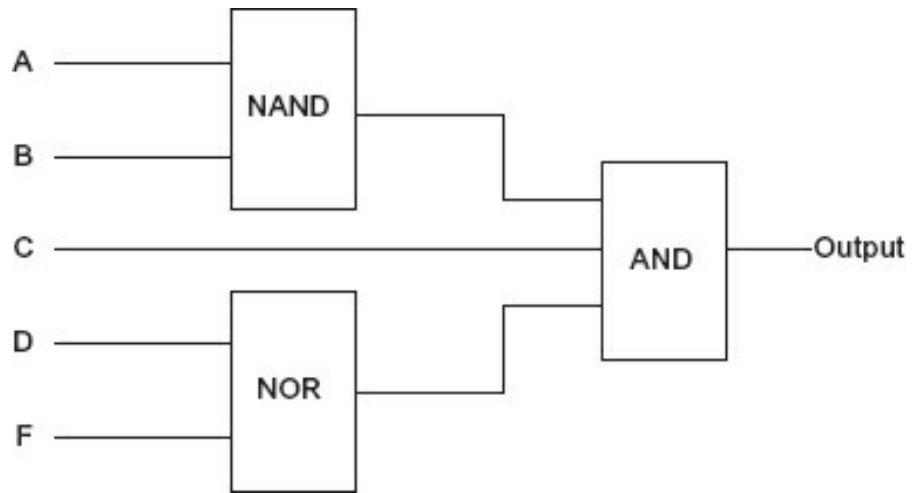

Figure R9-2. Circuit 2.
8. See Figure R9-2. In Circuit 2, A = 0, B = 1, C = 1, D = 0, and F = 0. What is the output?